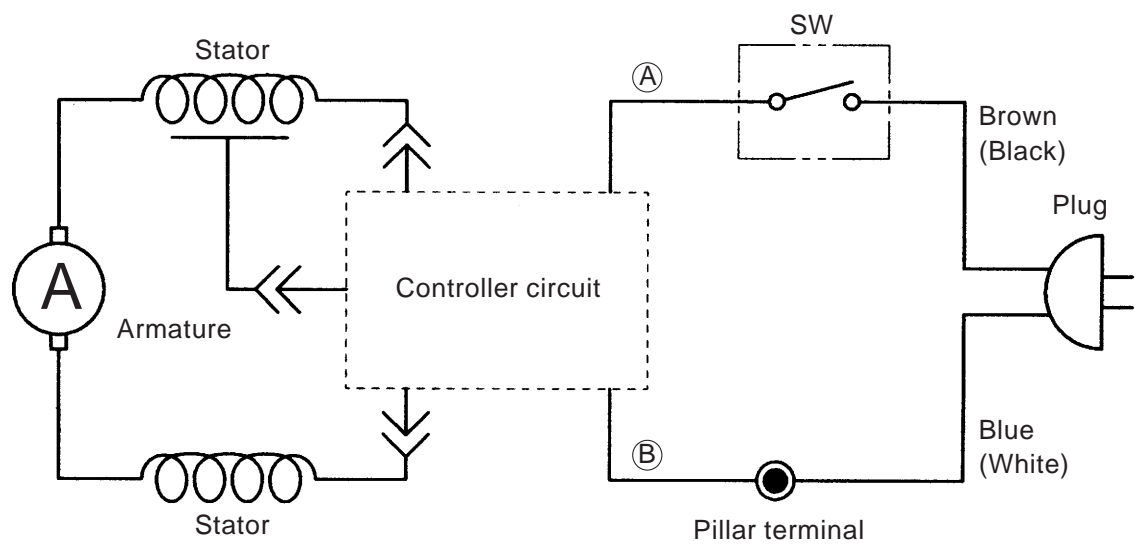

Fig. 8
Put two internal wires of the Stator Ass'y <68> and an internal wire of the Internal Wire <87> (grounding wire) through the 9 × 10 hole of Case (B) <85>. Insert the two internal wires of the Stator Ass'y <68> into the two tabs at the upper portion of the Controller Circuit <86> and insert the Internal Wire <87> into the lower tab. The upper two tabs have no relation in connecting position. Put the two internal wires of the Controller Circuit <86> through the 14 × 16 hole at the upper portion of Case (B) <85>. Position the dial to the dial hole, and then put the Controller Circuit <86> in Case (B) <85>. Putting the two internal wires of the Controller Circuit <86> through the handle side of the Sleeve <81>, put the Controller Circuit <86> and Case (B) <85> in the Housing Ass'y <72>. Perform wiring according to the wiring diagram as shown in Fig. 8. At this time, make sure that the two internal wires of the Controller Circuit <86> are held with the Internal Wire Holder <82>.